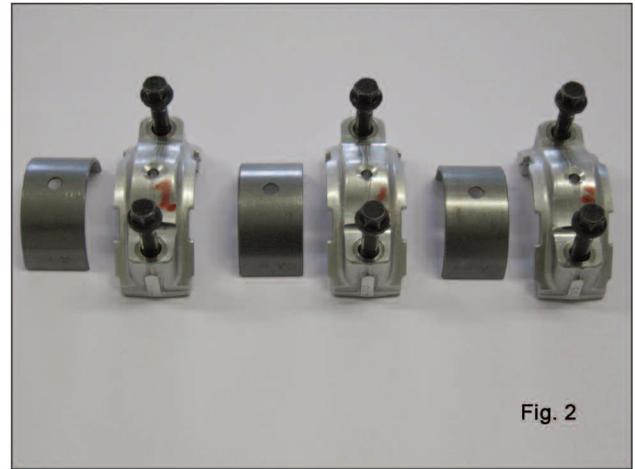

Fig. 2
- the con-rod cap as follows: unscrew the cap fixing screws, remove the con-rod caps with their lower half-bearings (fig. 2) paying attention to the numbered sequence during disassembly.